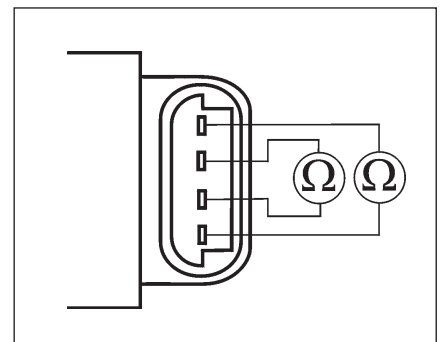

Fig. 4 Resistance measurement at stepp motor
- Measure the resistance at both stepp motor coils as shown in Fig. 4.